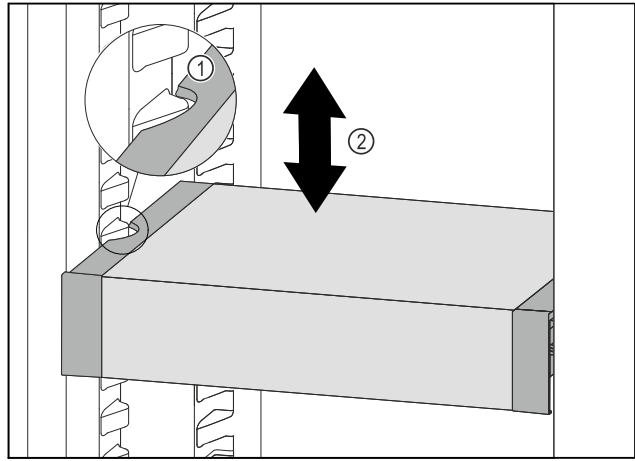

Fig. 97
- ▶ Pull VarioSafe forwards until the recesses in the side of the VarioSafe are at the level of the support rib in the refrigerator compartment. Fig. 97 (1)
- ▶ Move VarioSafe up or down in the refrigerator compartment until the desired height is reached. Fig. 97 (2)